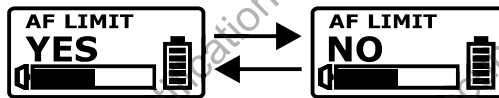

Fig. 12
- (C) AF LIMIT: Audio Input Limit Setting. Fig. 12
- (1) Select YES or NO.
(2) YES: the maximum output of the receiver is limited to 1V.